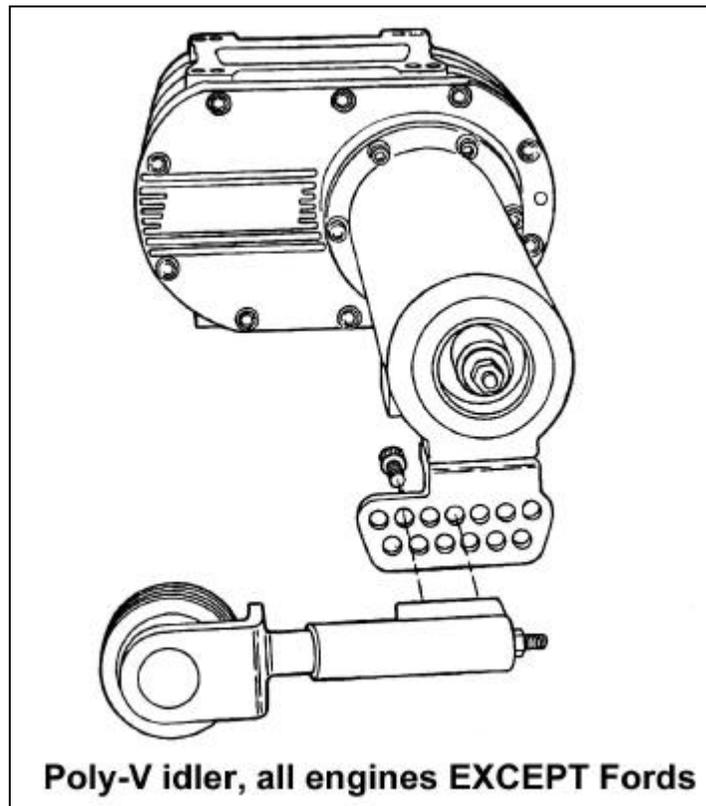
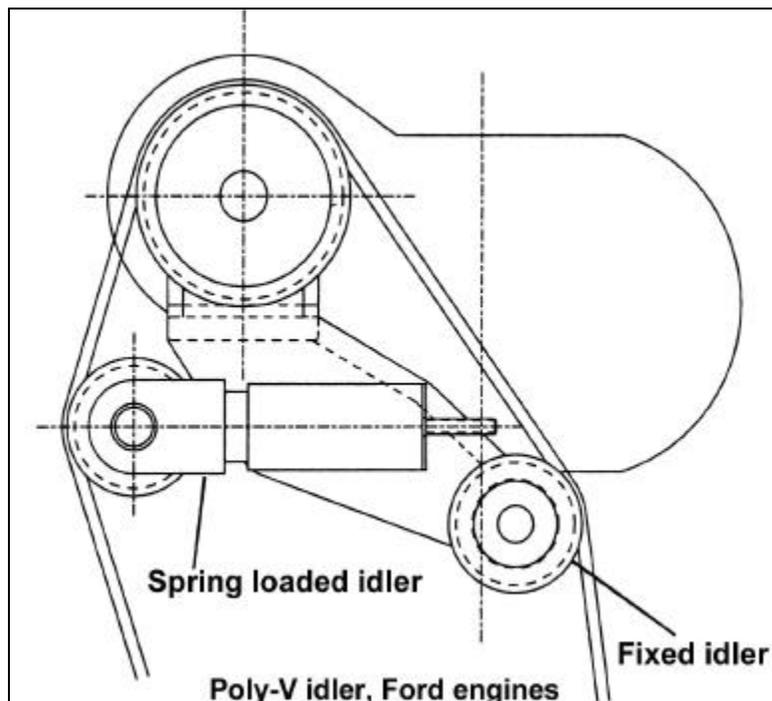

Figure 3
Figure 4
**STEP 6 (Poly-V belt).** A bracket for the idler is attached to the drive housing of the supercharger. There are two basic idler assemblies that are used on almost all kits. The idler for blowers with the standard input location has one spring loaded idler bolted to it (see Figure 3). The idler for blowers with an offset input (used on Ford V8 engines to clear the distributor) have a fixed idler and a spring loaded idler. The spring-loaded idler is bolted to the cast mounting bracket (see Figure 4). Both types of mounting brackets have a number of holes in them for locating. Only two of the holes are used for the mounting bolts for the spring loaded idler/tensioner. These holes allow for several different locations for the idler assembly, and are used for different sizes of driven (upper) pulleys.
The idler assembly should be bolted to the support bracket with the two Allen head screws supplied with the kit. The preliminary location for the spring loaded idler is shown on the supplemental instructions for the particular blower kit. The two screws that hold the spring loaded idler in place go through either two holes in the upper row or two holes in the lower row on the support bracket and then screw into either the upper or lower two tapped holes on the idler mounting pad. Mount the idler and tighten the screws, but do not use the thread sealer at this time. The supercharger should now look like Figure 3 or 4. Be sure that the bolts securing the support bracket to the drive housing are also tight. The nut on the threaded rod extending from the end of the idler assembly should be fully tightened to pull the idler all of the way in.